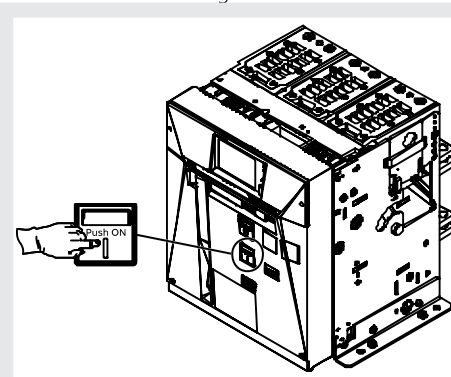

Figure 61
4. Closing - Press the closing pushbutton “I - Push ON” as indicated in Figure 61.